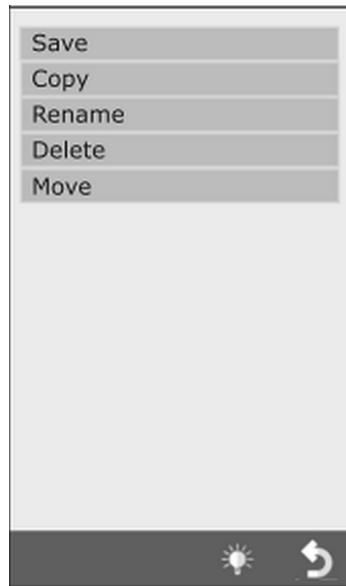

Fig. 25
2. Then select 'Save' and 'Move' (Fig. 25).
Open the thermal processing program and press 'Functions' key (20, Fig. 24), select 'Save' and then 'Rename' (Fig. 25). Type in the new name and press Enter.
1. Open the thermal processing program for removing and press 'Functions' key (20, Fig. 24), select 'Save' and then 'Remove' (Fig. 25).